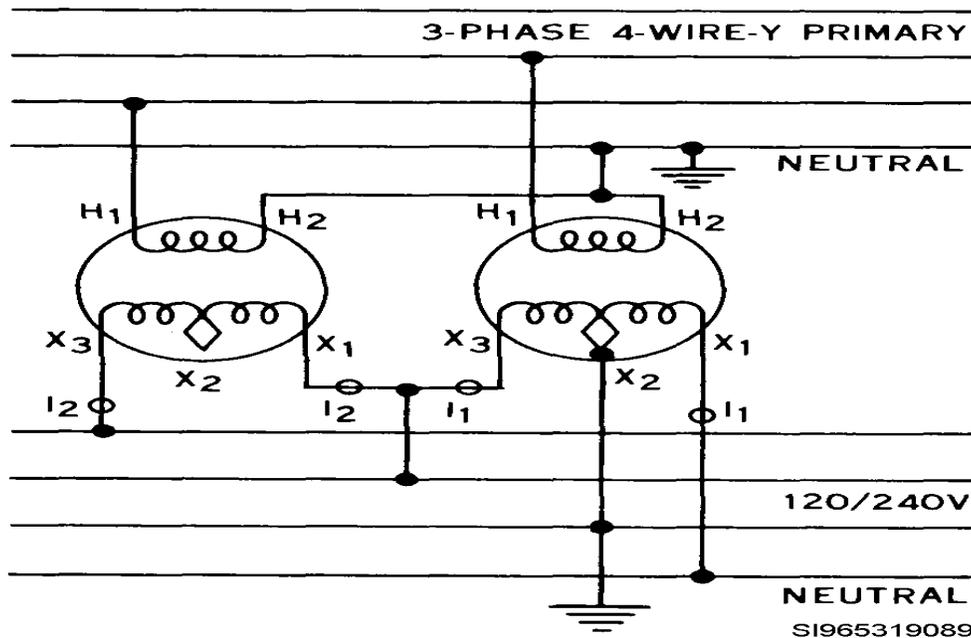

Figure 9, Wye/Open Delta for Lights and Power
Step 16: Primary Connection for Wye/Open Delta as seen in Figure 9 above.
Step 17: Secondary Connection for Wye/Open Delta as seen in Figure 9 above.